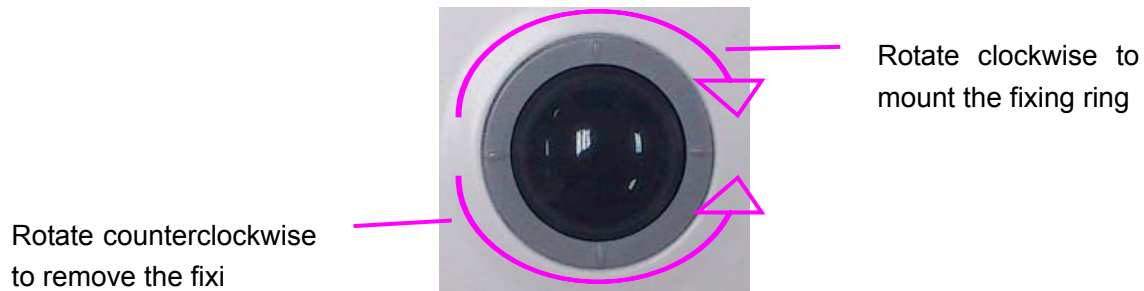

Figure 15-2 Assembling and Disassembling Trackball
2. Remove the trackball as shown in Figure 15-2.